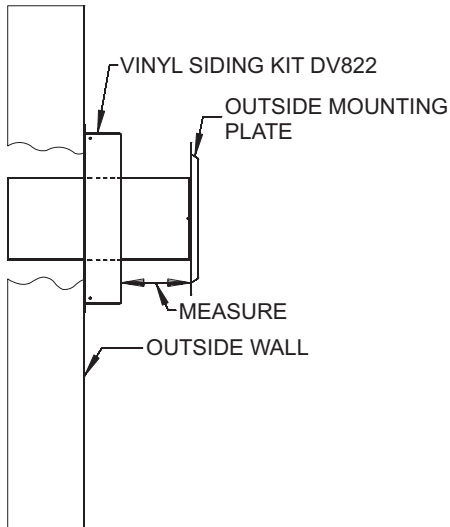

Figure 39
5. Attach the inlet tube to the outside mounting plate. Align tinnerman clips on the tabs of the air inlet tube to the holes on outside mounting plate, and fix with (2) #10 x 1/2" screws.
6. With the vinyl siding kit installed to wall (if necessary), insert the 6 5/8" (168 mm) diameter tube with outside mounting plate attached through hole in wall. Connect to collar on fireplace or rigid vent system. Measure between wall or vent cap extension and outside mounting plate (**Figures 39 and 40**).
8. Attach the 4" (102 mm) diameter flue outlet tube onto the rigid venting system or directly to fireplace. Ensure the 4" (102 mm) diameter flue outlet tube is placed as far as possible onto the rigid venting system. Mark the 4" (102 mm) diameter flue outlet tube 2 1/2" (64 mm) beyond the vinyl siding kit or wall. **See Figure 39.** Remove the 4" (102 mm) diameter flue outlet tube from rigid venting system. When installing directly to fireplace, tape gasket needs to be used.
10. From outside: Push the 6 5/8" (168 mm) diameter inlet tube/ mounting plate onto end of rigid venting system to correct position. Fasten the outside mounting plate to the vinyl siding kit or wall with (4) 10 x 1 1/2" screws. (Ensure upward slope).
11. From inside: Attach the inlet tube to the collar on the back of the fireplace (or the rigid venting system) using (3) self tapping screws.